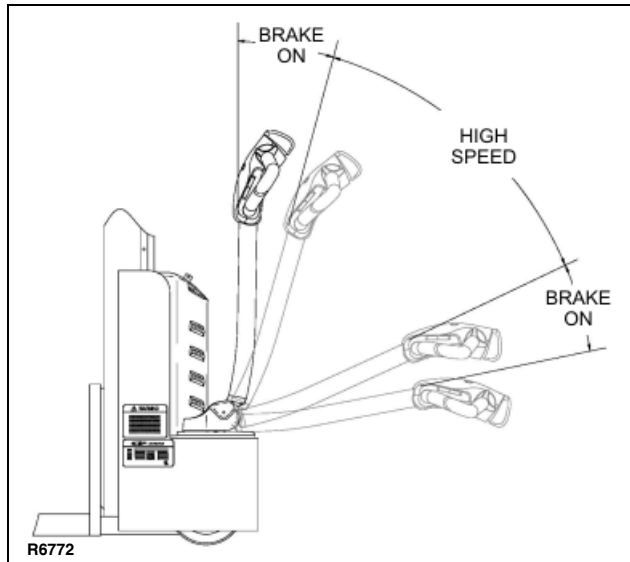

Figure 2-5 Brake Actuation
2. Lower the steering arm to a comfortable position above horizontal to disengage the brake and to energize the electrical circuits. If the truck is not moved, the electrical circuits will time out and will deenergize. See Figure 2-5.
4. To slow down or stop, release the speed control and lower or raise the steering arm to the horizontal or vertical position. See Figure 2-5. In those positions, the brake engages, slowing or stopping the truck.
2. **Steering arm (See Figure 2-5):** The brake is fully applied by lowering or raising the steering arm. (See Figure 2-5) All traction control power is shut off when the brake is engaged. When the steering arm is in the upright position, the brake acts as a parking brake. Deadman braking occurs when the handle is released and spring action raises steering arm to the upright position.